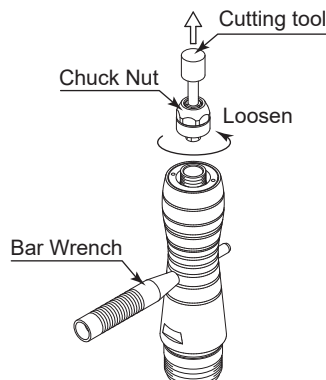

Fig. 5
- Remove the tool as detailed in Section 5. "CHANGING THE CUTTING TOOL" procedure and remove chuck nut assembly (Fig. 5).